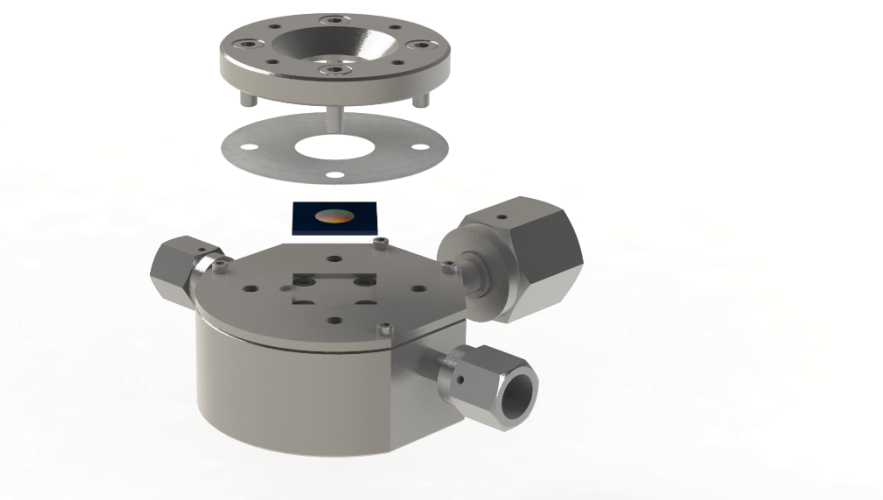

Figure 25: Installation of a membrane chip.
10. Insert a new chip, checking that the holes in the chip are aligned to the holes in the interface block (Figure 25)